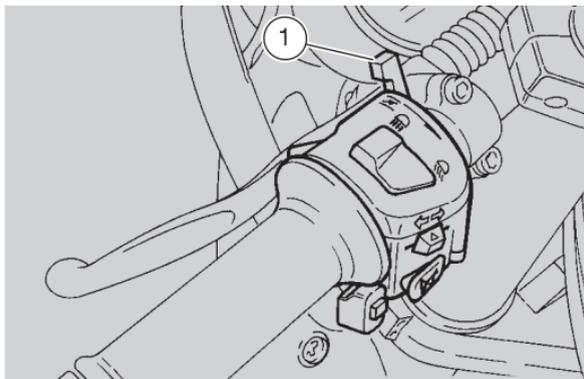

Fig. 24
If the engine is cold, rotate the lever "1" downwards (1-Fig. 24).
- Warm the engine up until it runs normally, with the cold start lever "Ⓢ" (1-Fig.-Fig. 24) completely rotated upwards.
Do not use the cold start lever "Ⓢ" (1-Fig. 24) when starting with hot engine.**
- rotate the cold start lever "Ⓢ" (1-Fig. 24) completely upwards;